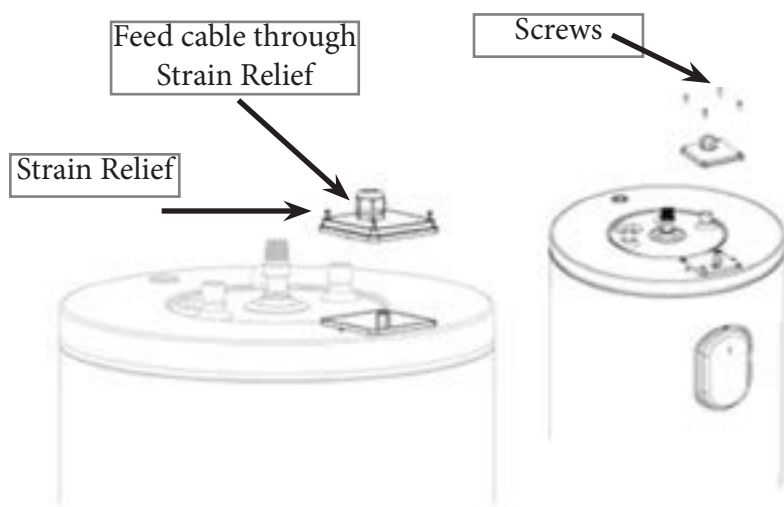

Fig. 4
1. Remove the lid of the junction box by unscrewing the 4 screws as shown in Figure 4.
2. Loosen strain relief and place electrical cable through the strain as shown in Figure 4.